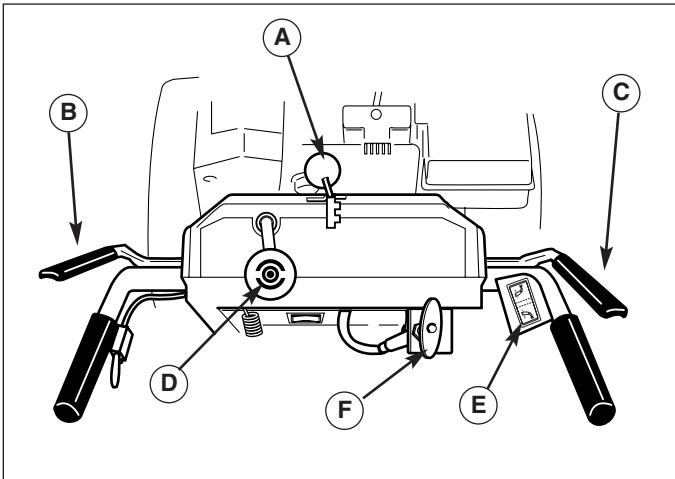

Figure 2. Controls (from operator's position)
7. Check the drive control (B, Figure 2), and auger control (C) for proper operation. If adjustment is required, see the service section for procedures.
8. Check the chute direction control (D, Figure 2) for proper operation. The discharge chute should rotate freely in both directions. See the service section for adjustment procedures and troubleshooting.
9. Check the chute deflector (E, Figure 2) for proper operation. The deflector should pivot freely up and down when the chute deflector knob is loosened.
11. Check the speed selector (A, Figure 2) for smooth operation. The control must move freely into each speed position gate and remain in position when released. If the speed selector does not move freely into all forward and reverse speed positions, contact your local authorized dealer for assistance.
3. Fully press and hold the auger engage control (C, Figure 2) on the right-hand grip to begin auger rotation. Releasing the auger engage control will disengage the auger —unless the Free-Hand™ Control has been activated (See step 5 below).
4. Fully press and hold the traction & Free-Hand™ Control lever (B, Figure 2) on the left-hand grip to engage the traction drive and begin moving the snowblower. To disengage the traction drive, completely release the lever.
6. Select forward or reverse speeds as needed using the Speed Selector (A, Figure 2). Release both control levers before changing drive speeds.
Use the speed selector (A, Figure 2) to control the drive speed of the snowblower. There are five forward speeds and two reverse speeds.
To change speeds, release both control levers (B, Figure 2), then move the speed selector to the desired setting. Fully depress the control levers to resume.